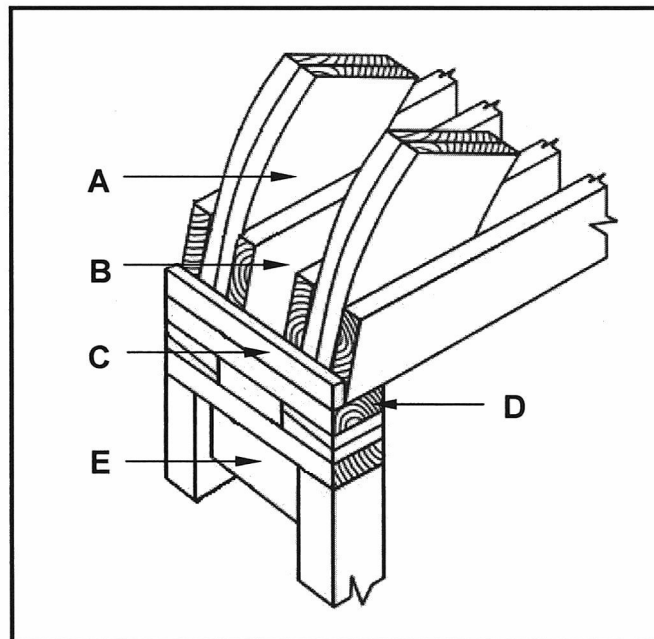

FIGURE 5.1
5.1 FIGURE 5.1 below shows the construction detail at the foot of a centre. Identify parts A to E.